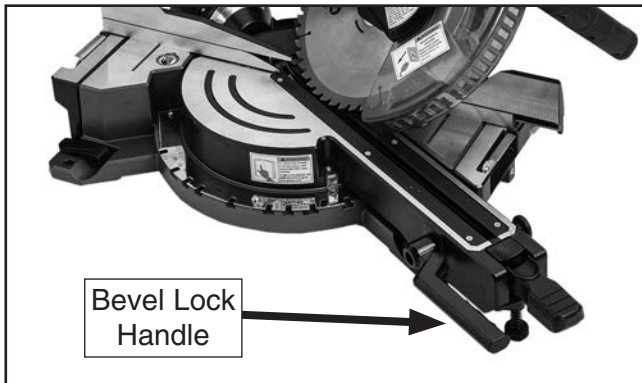

Figure 15. Bevel lock handle location.
1. Lift bevel lock handle to unlock tilt position (see **Figure 15**).